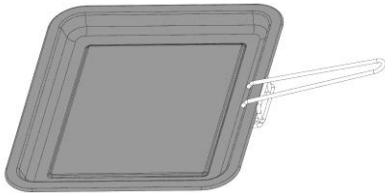

Fig. 3
- How to fit the handle to the baking tray and grill rack - see Figs. 3 & 4.
- Always use the handle supplied when fitting or removing the rack / tray from the oven. See Figs. 3 & 4 below on how to fit the handle.